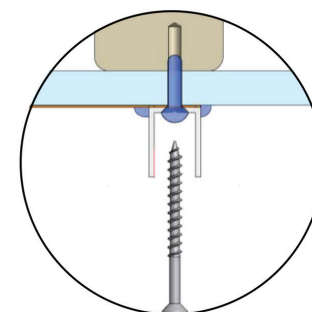

FIG 8.
- When plumb, drill 2 holes (3.5mmD) in wall channel, lining up with framing locations. (FIG 8). The top hole should be within 100mm of top of channel and the second hole within 1000mm of top of channel. No screws will be required lower than 1000mm up from bottom of base.
- Inject silicone into and around screw holes (FIG 8). Ensure wall channel is plumb, then screw in place.